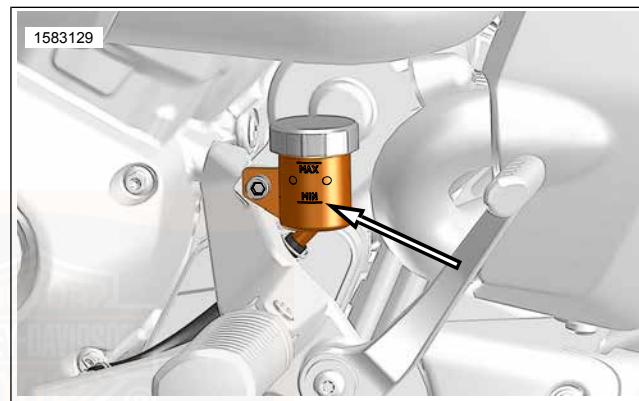
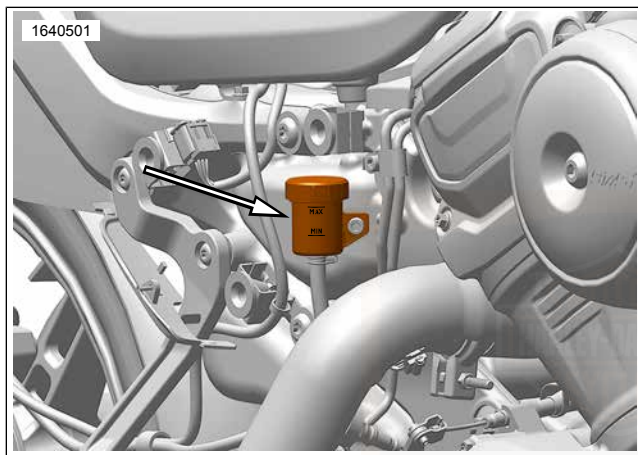

Figure 61. Rear Master Cylinder Reservoir MIN Level (1250 Models Typical)
Figure 62. Rear Master Cylinder Reservoir MIN Level (975 Models Typical)
4. **Rear:** See Figure 61 or Figure 62. Check level on side of rear brake reservoir. Level must be above minimum mark on side of reservoir.